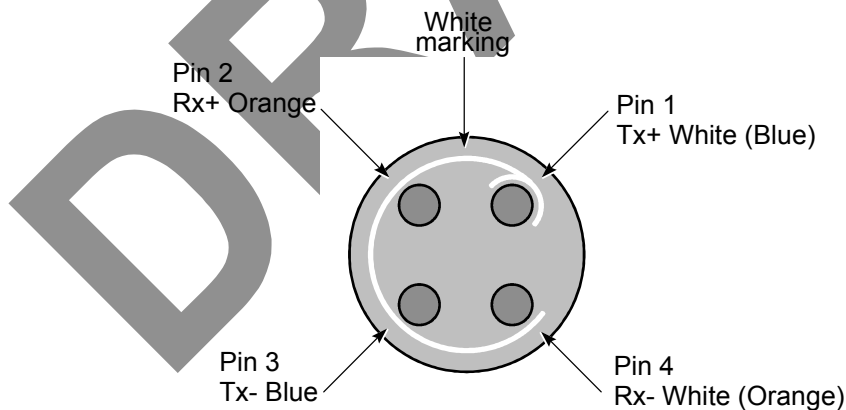

Figure 52 – Inserting the contact pins
11. Arrange the four pins as indicated in *Figure 52*, and insert them simultaneously into the insert; the pins enter the side of the insert that has the white marking. The pins must be inserted simultaneously because the conductors are not long enough to be inserted one at a time. Push each pin until it clicks into position, then confirm that contact is secure by gently pulling on the conductor.